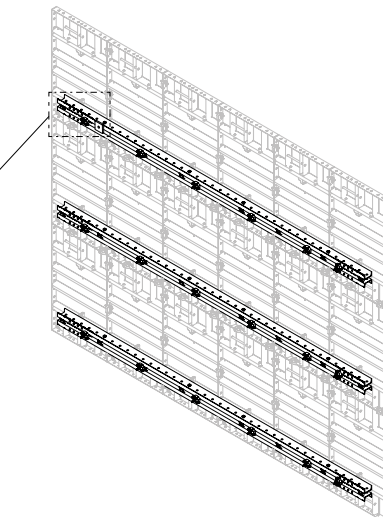

Fig. A4.25
4. Perform the similar procedure to install the other SRZ/SRU walers for each horizontal level of panels. (Fig. A4.25)